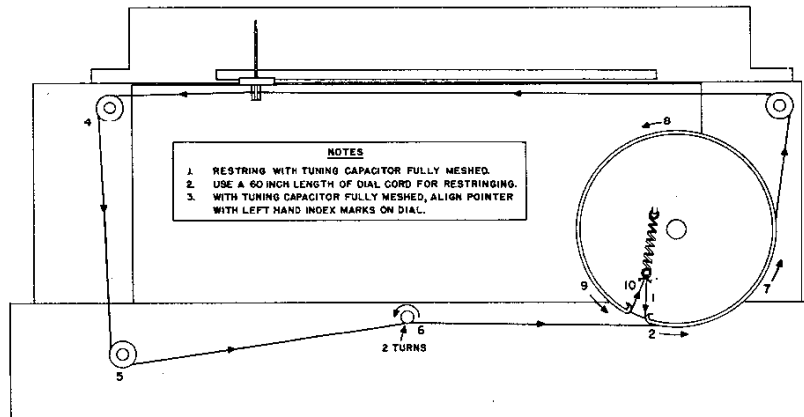

Fig. 5. Dial Cord Stringing Procedure
2. Tie one end of a 60 inch length of 30 lb. test dial cord to the tension spring at position 1. See Fig. 5.